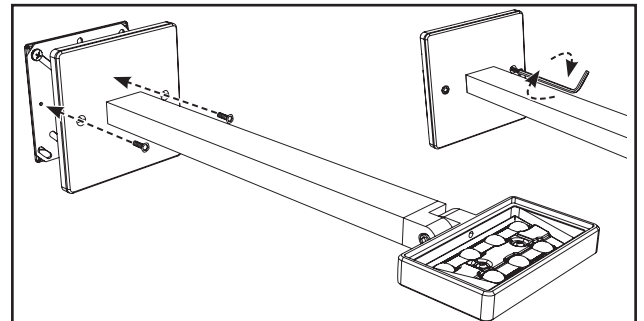

Figure 3.
5. Align gasket and wallplate over junction box and mounting plate and insert the two included screws into the mounting holes. Secure the backplate to the mounting plate using a 5/64" Allen key. (Figure 3.)